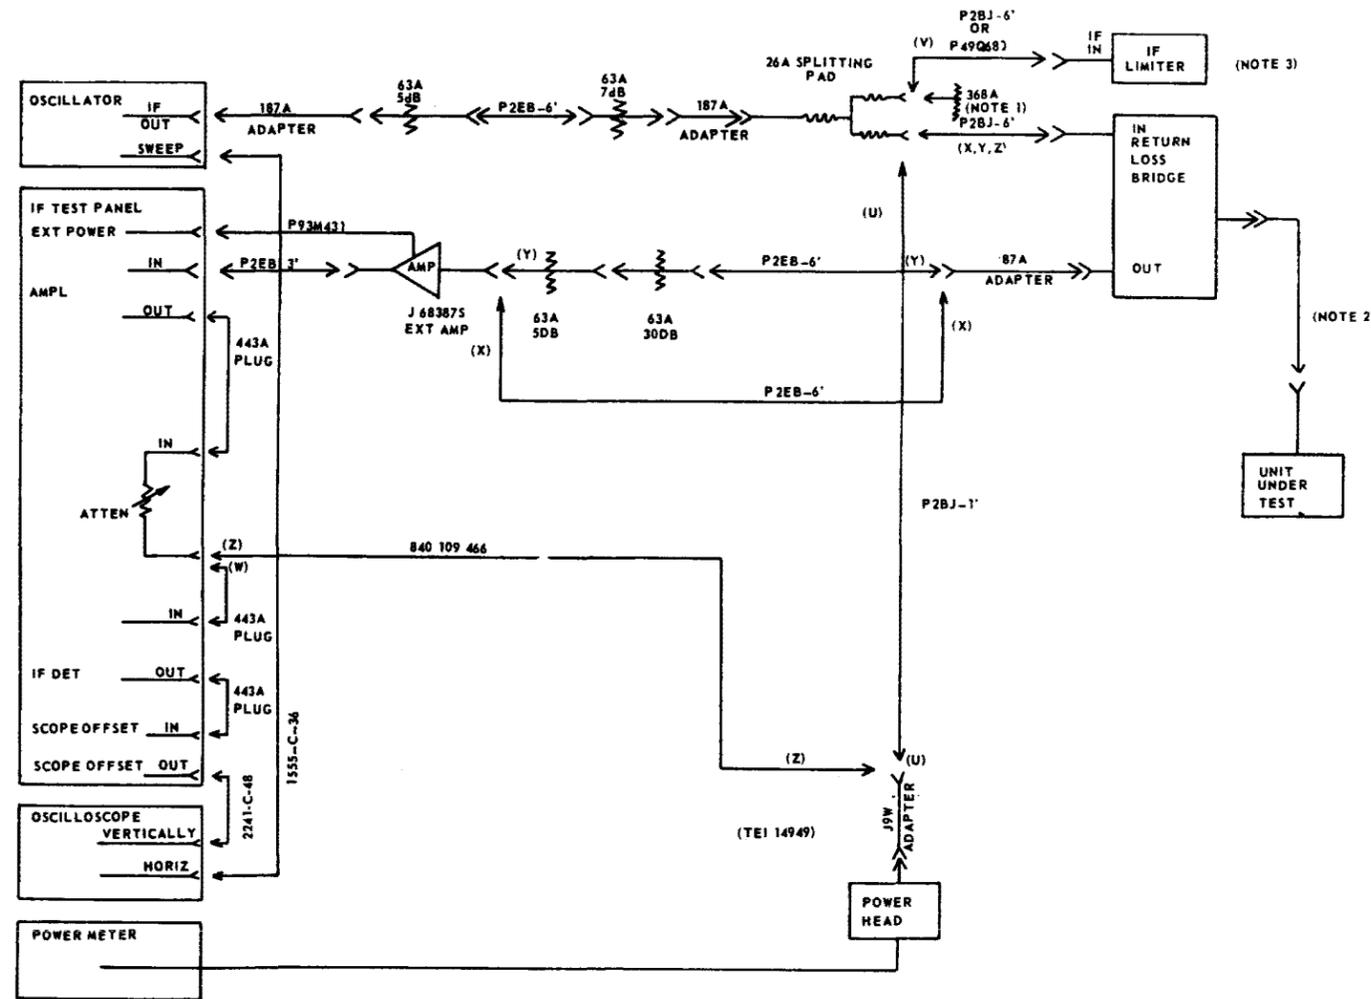

Fig. 1—TD-3—IF Return Loss Measurement Setup
1	Prepare for the return loss test in accordance with Figure 1.
2	Remove the normal connection from the IF OUT jack and insert a 368A plug. Connect option (V) in Figure 1.